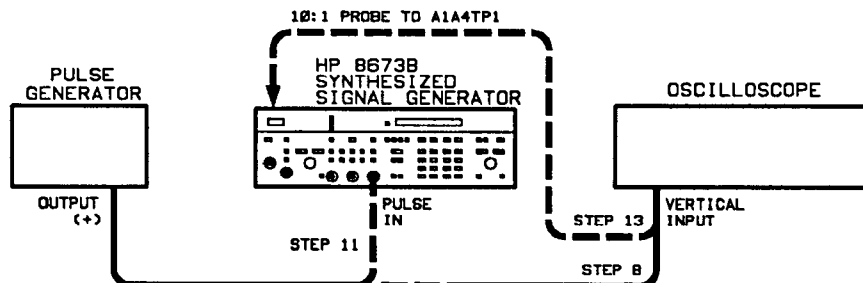

Figure 5-34. Series Pulse Width Adjustment Test Setup
1. Connect the pulse generator to the oscilloscope as shown in figure 5-34.